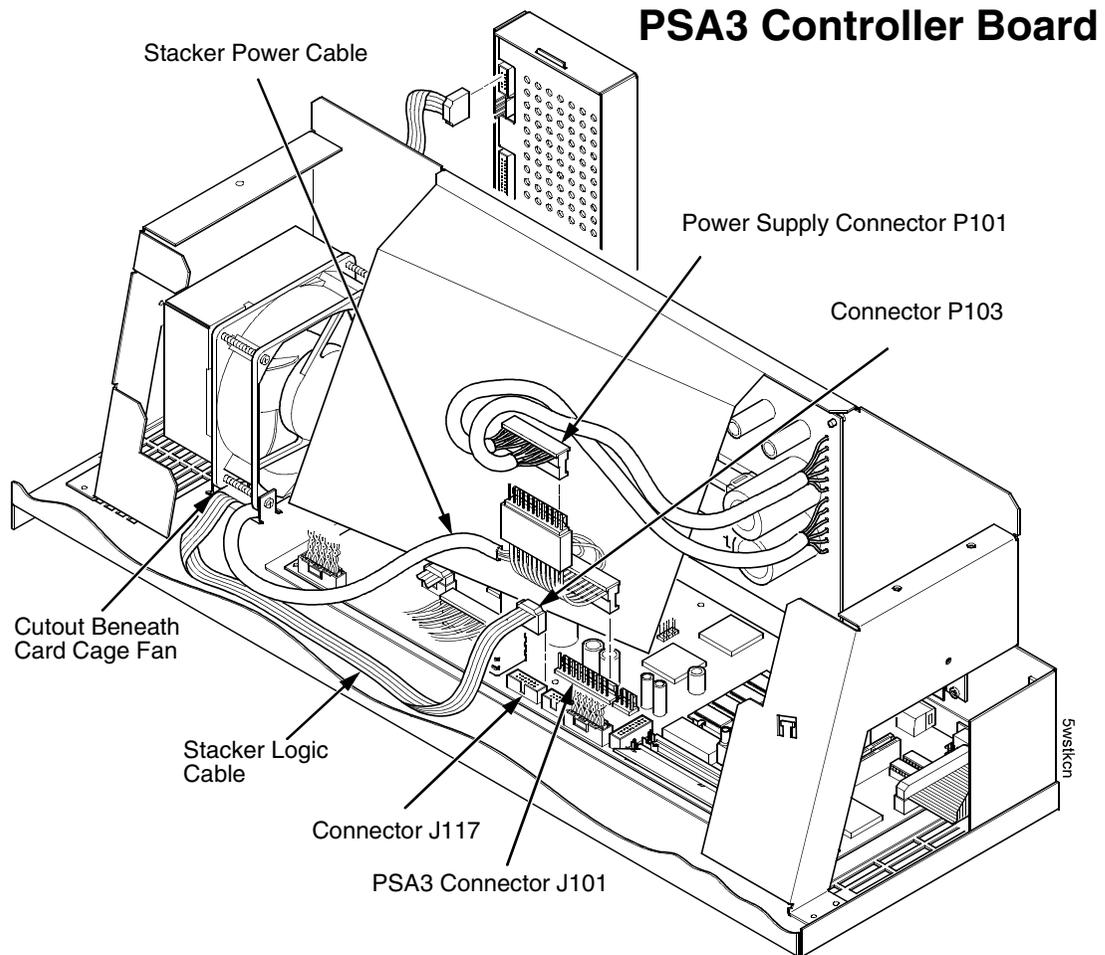

Figure 83. Stacker Power and Logic Connections on the PSA3 Controller Board
5. Connect the power stacker logic cable P103 to connector J117 on the controller board. (Figure 83.)
6. Disconnect the power supply cable from connector J101 on the controller board. (Figure 83.)
7. Connect power supply cable connector P101 to the stacker power cable, then connect the stacker power cable to connector J101 on the controller board. (Figure 83.)
8. Route the stacker power cable in front of the controller board and down through the cutout under the card cage fan. (Figure 83.)
9. Route the stacker logic cable in front of the controller board and down through the cutout under the card cage fan. (Figure 83.)